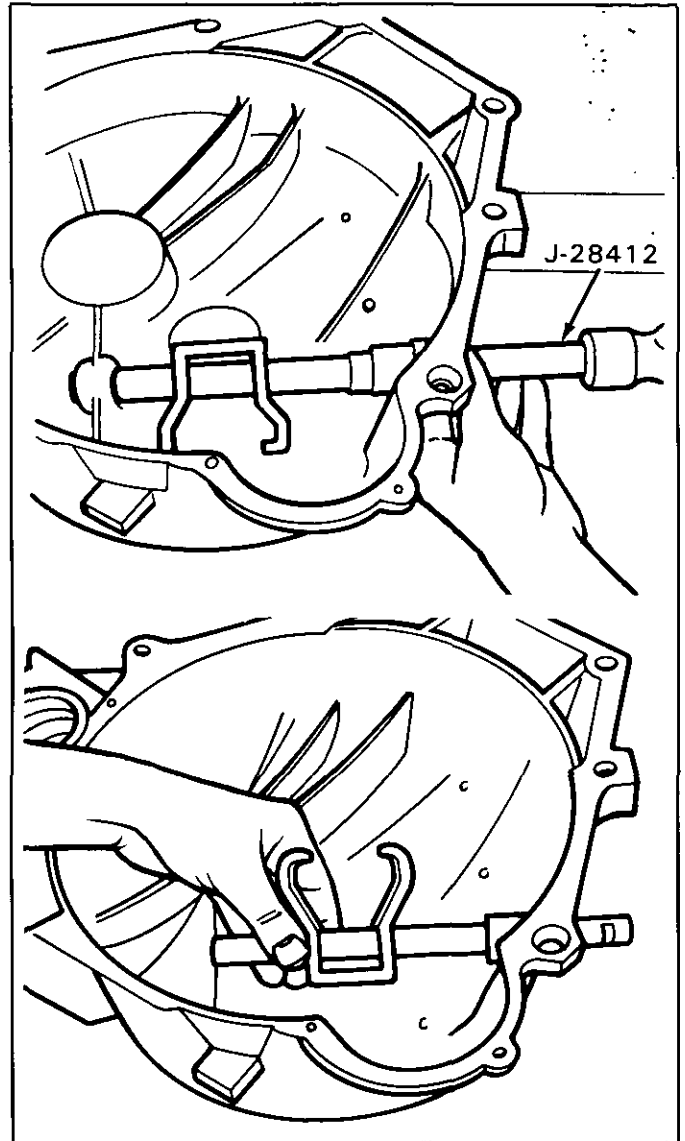

Figure 38 Replacing Clutch Fork Shaft and Bushings
6. If it's necessary to replace the clutch fork shaft or bushing, do not break the weld on the clutch fork to remove it. Use J-28412 (clutch shaft bushing installer/remover), and remove the shaft bushings first and then slide the clutch shaft out of the case at a slight angle (Figure 38). Always replace the clutch fork shaft seal after replacement of the shaft or bushing.